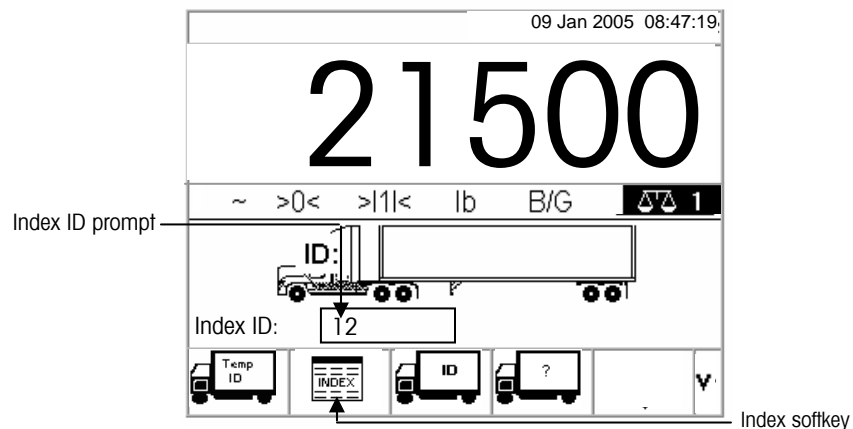

Figure 2-10: Weight Screen With Index ID Prompt
1. Once the vehicle is on the scale, press the INDEX softkey (Figure 2-10).
2. An Index ID prompt displays with a cursor in the ID field (see Figure 2-10).